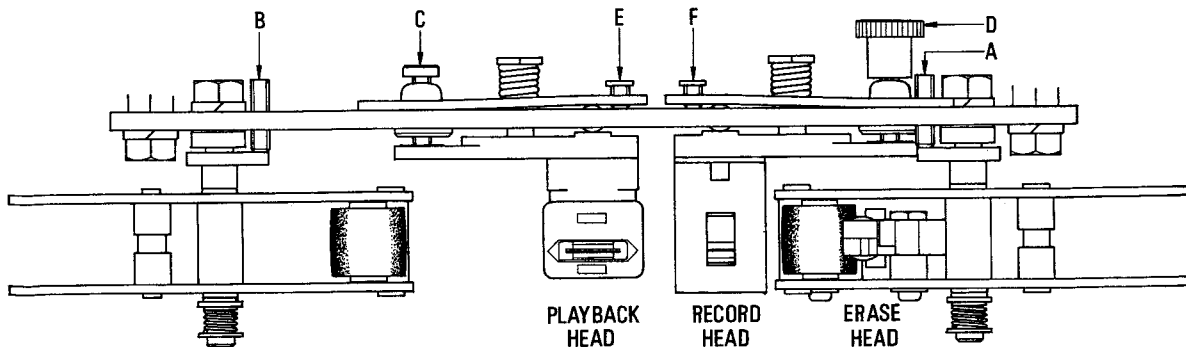

Fig. 6.13 Head Height/Azimuth Adjustment
- (1) Load the Track Viewer (DA09012A), and check the positions of playback and record heads. While adjustment, check to insure that the L-R center of each head coincides in position with the middle point between two lines (0.3 mm distance) on the Track Viewer.
- (2) If the L-R center deviates from the middle point, refer to Fig. 6.13. and correct the head height deviation by adjusting screws E and F, together with adjusting C and D for correcting head azimuth.